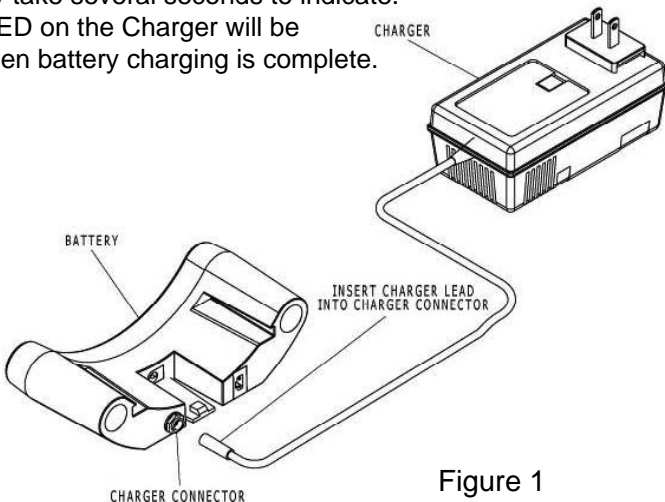

Figure 1
2. Connect the Charger to the Battery (fig. 1)